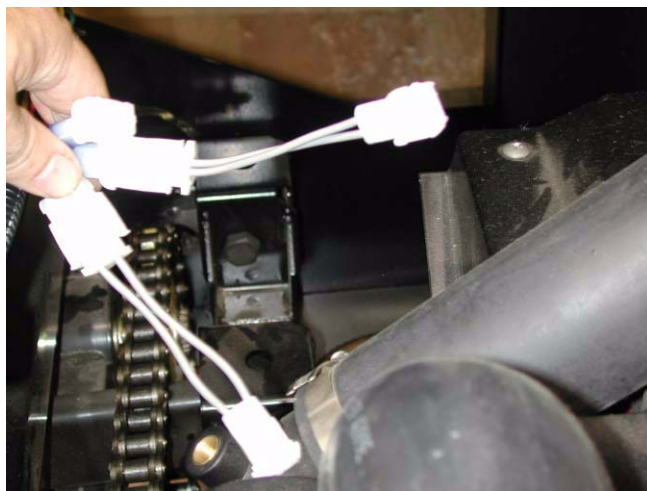

Figure 2.5
- 2.5. Raise the bed. The final two connectors are located among the bundle near the right rear corner of the engine compartment, at the top of the frame. See Figure 2.5.